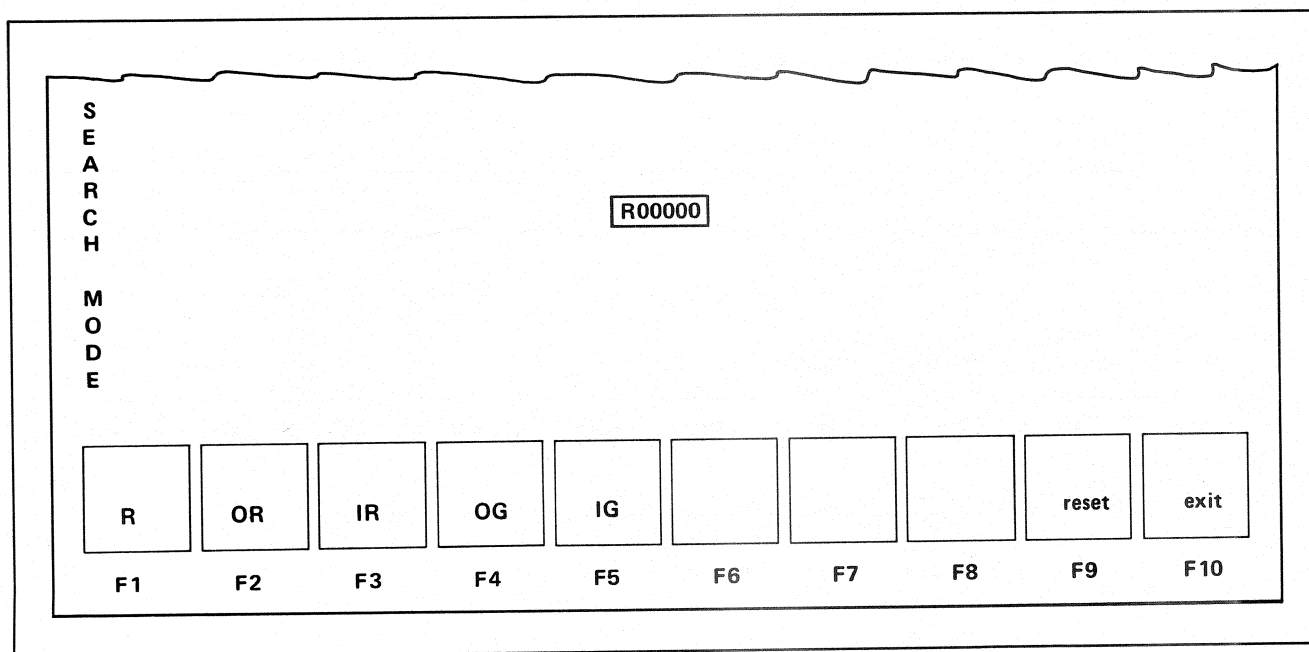

Figure 11-4. Register or IG/OR Group Selection
**Step 1** – Press the F2, REG., function key to display the register or group selection screen shown in Figure 11-4.